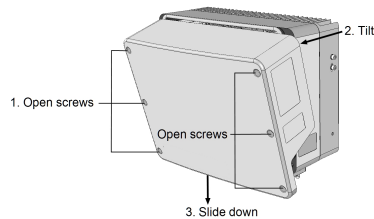

Figure 18: Removing the inverter cover
5. Open the inverter cover (see *Figure 18*).